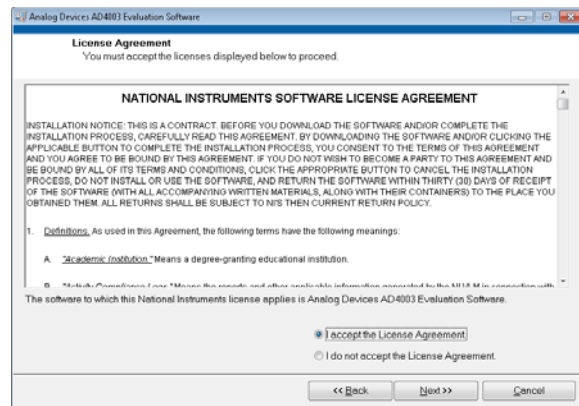

Figure 5. License Agreement
5. Select **I accept the License Agreement** to accept the National Instruments software license agreement, and then click **Next>>** (see Figure 5).